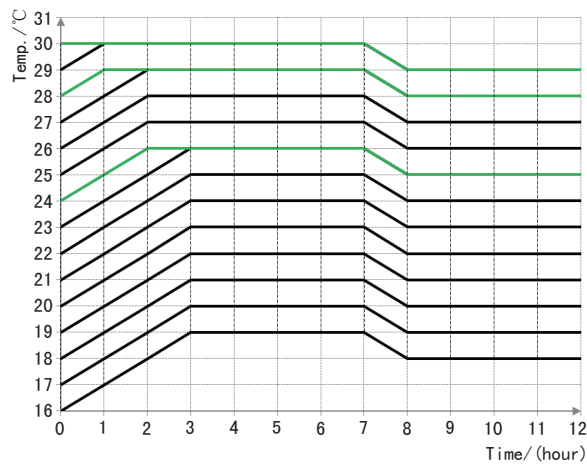

Fig.14 Sleep Curve under the COOL Mode
- ① The Sleep function is defaulted to be OFF after power recovery.
- ② The Sleep function is unavailable under the Fan mode.
- ③ When the Quiet function is activated, the Quiet function will always keep ON no matter if the Sleep function is activated or deactivated.
- ④ Under the Cool mode, the Sleep function is ON, the setting temperature range can be 16~23°C, 24~27°C, 28~29°C or 30°C. Each of them has a different curve as shown in Fig.14.